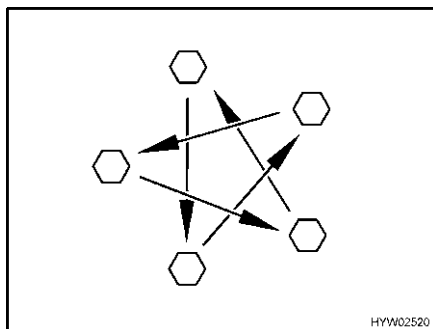

Fig. 206 Tighten the wheel nuts or wheel bolts cross-wise
- Check regularly that the wheel nuts or wheel bolts are firmly seated. Re-tighten the wheel nuts or wheel bolts of a changed wheel cross-wise (Fig. 206) after 50 km (30 miles). See section 13.5.2 for tightening torque.
- ▷ Tighten the wheel nuts or wheel bolts cross-wise (Fig. 206).